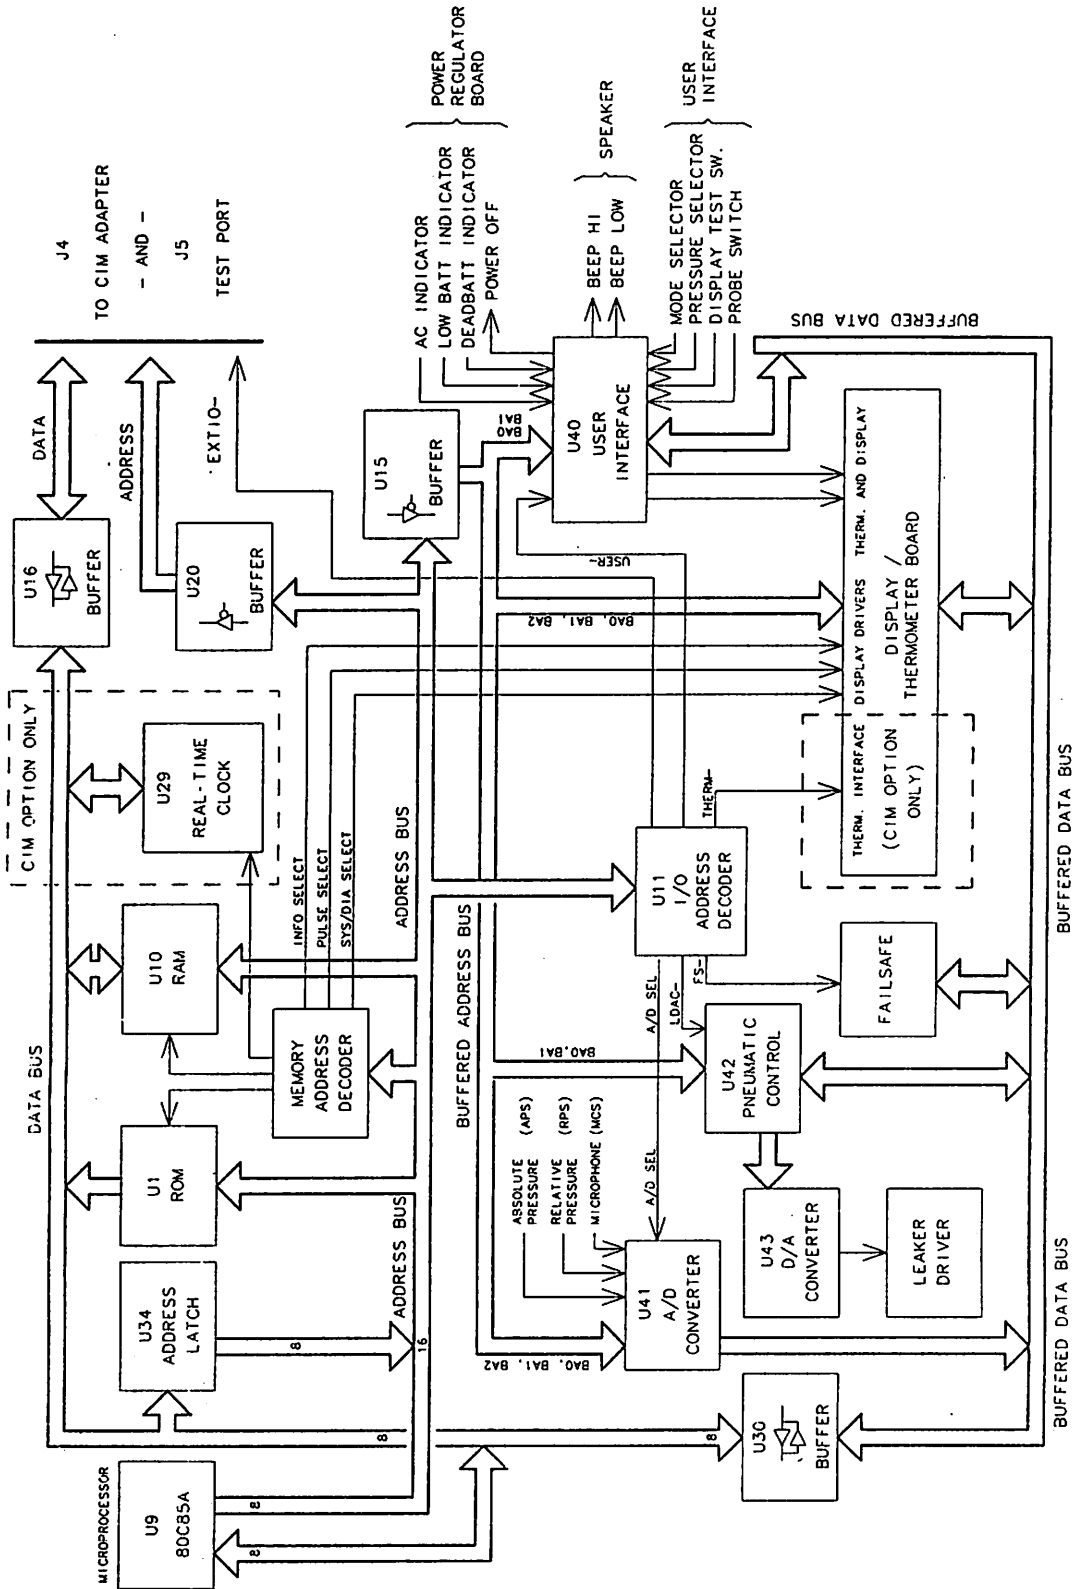

Figure 3-1. Block Diagram of Logic/Analog Board
Block diagrams, figures 3-1 and 3-2, show the control, data and address bus connections between the CPU and peripheral devices. Each peripheral is discussed further in sections 3.3 through 3.10.
3.2.2 Data Bus (figure 3-1)
3.2.3 Buffered Data Bus (figure 3-1)
The buffered data bus is an 8-bit bus, BDATA0 to BDATA7, and is buffered by U30. The buffered data bus connects to all I/O ports and to the display drivers and displays. The block diagram, figure 3-1, shows the relationship between the data bus and the buffered data bus.
3.2.4 CIM/Test/External I/O Buffered Data Bus (figure 3-1)